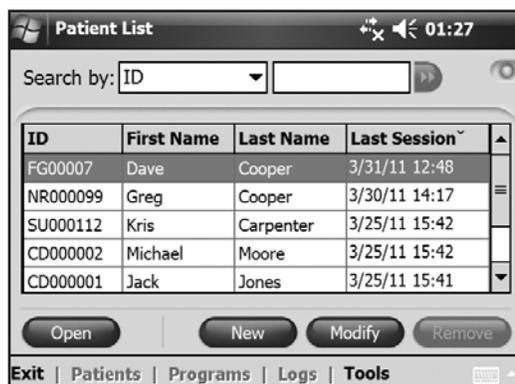

Figure 8-18: Patient List window.
1. Select a patient record from the patient list and press **Open**, or press **New** to create a new patient record. See Figure 8-18.